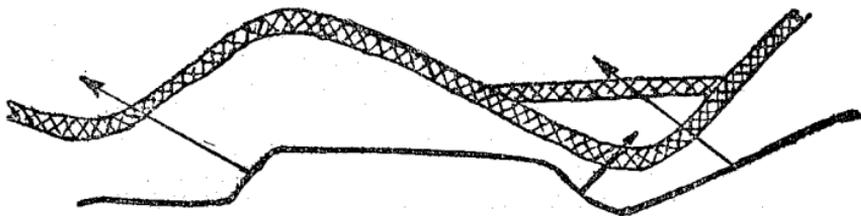

FIG. 222.
4. The trace of these works must be absolutely independent of that of the firing trench in order to baffle all attempts of the enemy to adjust his fire. The necessary salients must be made so that the fire of the flanking defenses can sweep the *exterior edges of the obstacles* (see fig. 222):